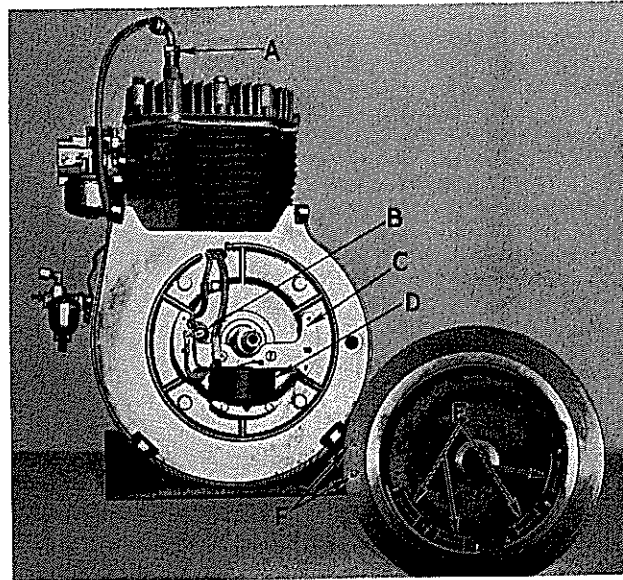

Figure 6
- a. The Phelon magneto (Figure 6) differs from the Bendix-Scintilla magneto in that the magnets are mounted in the flywheel and the stator assembly is held in place on the bearing plate with cap screws.
- a. All K330/K331 engines are equipped with a timing sight hole (A, Figure 8) in the bearing plate. Flywheels have two marks, visible through the sight hole. F, Figure 6.
- c. If a timing light is available, set the breaker point gap while the engine is running so that the "SP" mark on the flywheel is centered in the sight hole. Figure 6.